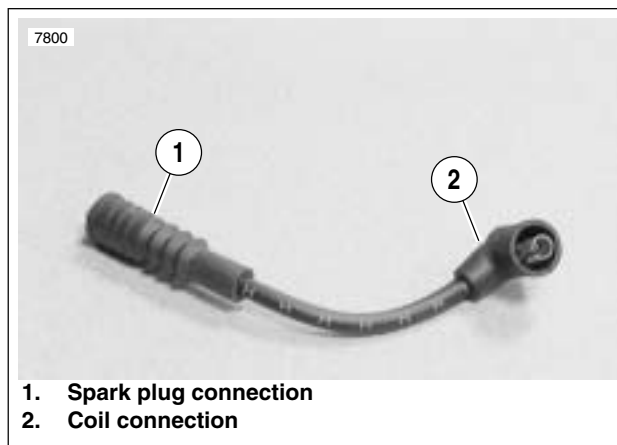

Figure 7-28. Spark Plug Cable (Typical)
1. See Figure 7-28. Inspect spark plug cable. Replace cable if worn or damaged.